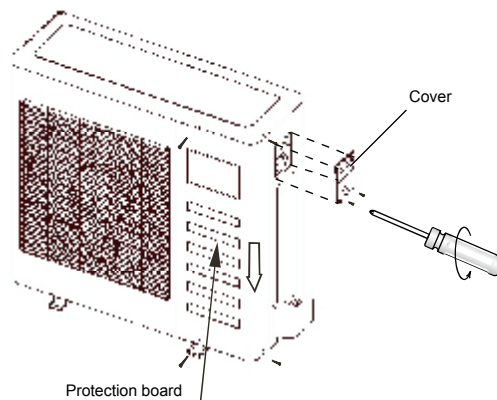

Fig.9-2
- Disassemble the bolts from the cover.(If there isn't a cover on the outdoor unit, disassemble the bolts from the maintenance board, and pull it in the direction of the arrow to remove the protection board.) (Refer to Fig.9-2)